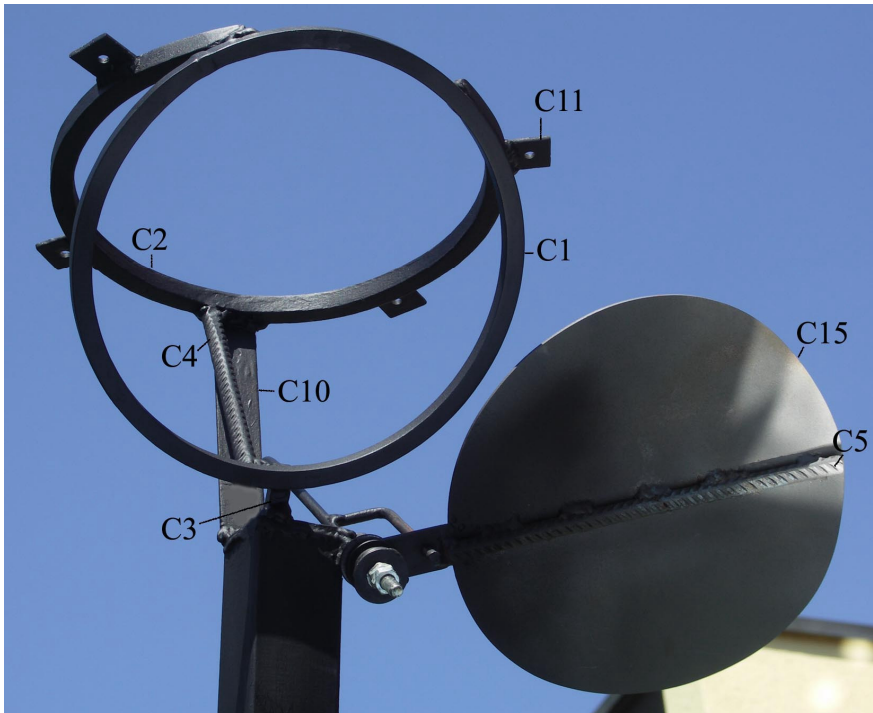

Fig. 59: Cooking Area
- Step 1** Attach F5 to R6 from the R6 side with a M10 bolt. Put a nut in between to tighten the bolt to R6. Use another nut and mount it to the bolt from outside. Note that a 10 mm clearance on either side of F5 is required for enabling the Reflector's seasonal distortion → 20mm thread. See Fig.59.
- Step 2** Attach R7 (B) from western side to the slot in the Centrebar with a bolt and a nut. Use a washer in between